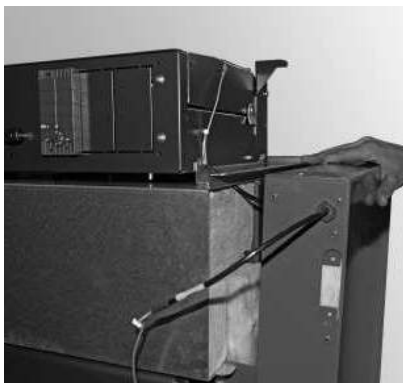

Fig. 36 Fitting right side panel – view from below
- Thread InfoWINplus cable through opening beside control panel – Fig. 36. For connection in control panel, see section 3.1.3.